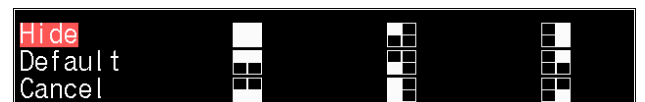

Figure 75 The Multiple Selection List Box
If you wish to view a particular window in one of the predefined sizes, and/or select one of the predefined window screen compositions, use the various Zoom Options see Figure 75 below.
- Click **Result** in the lower-right part of the screen, and the Multiple Selection List Box appears, displaying a list of options, see Figure 75. (The Multiple Selection List Box is available for the following windows: Trace, Raster, Trend, Log, Notes, Result and Overview).
- Then click the "Full Screen Display" button, which is situated in the topmost level in the second column to the left (see Figure 75 above), and the selected window size appears.
- To restore the window to its previous setup and size, click **Default** in the lower-right part of the screen and the setup as shown in Figure 75 above appears.